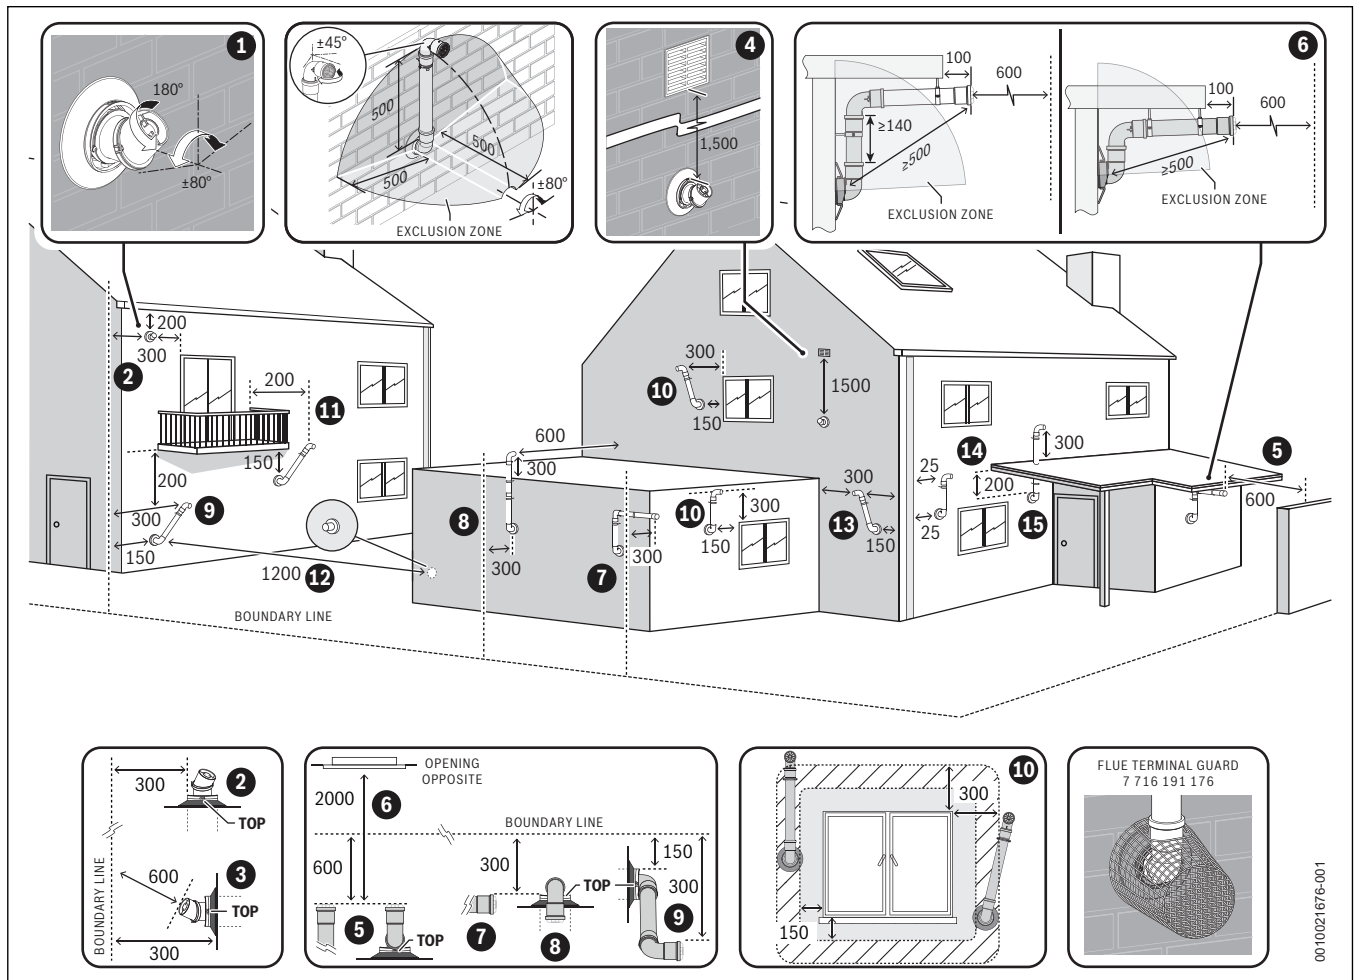

Fig. 28 Plume re-direct and plume management terminal positions
- ▶ Refer to “Horizontal flue terminal positions” for all concentric flue terminal positions unless the flue position is specified in figure 28 “Plume re-direct and plume management terminal positions”.
**Key to figure 28 - Plume re-direct terminal positions:**
**Key to figure 28 - Plume management terminal positions:**